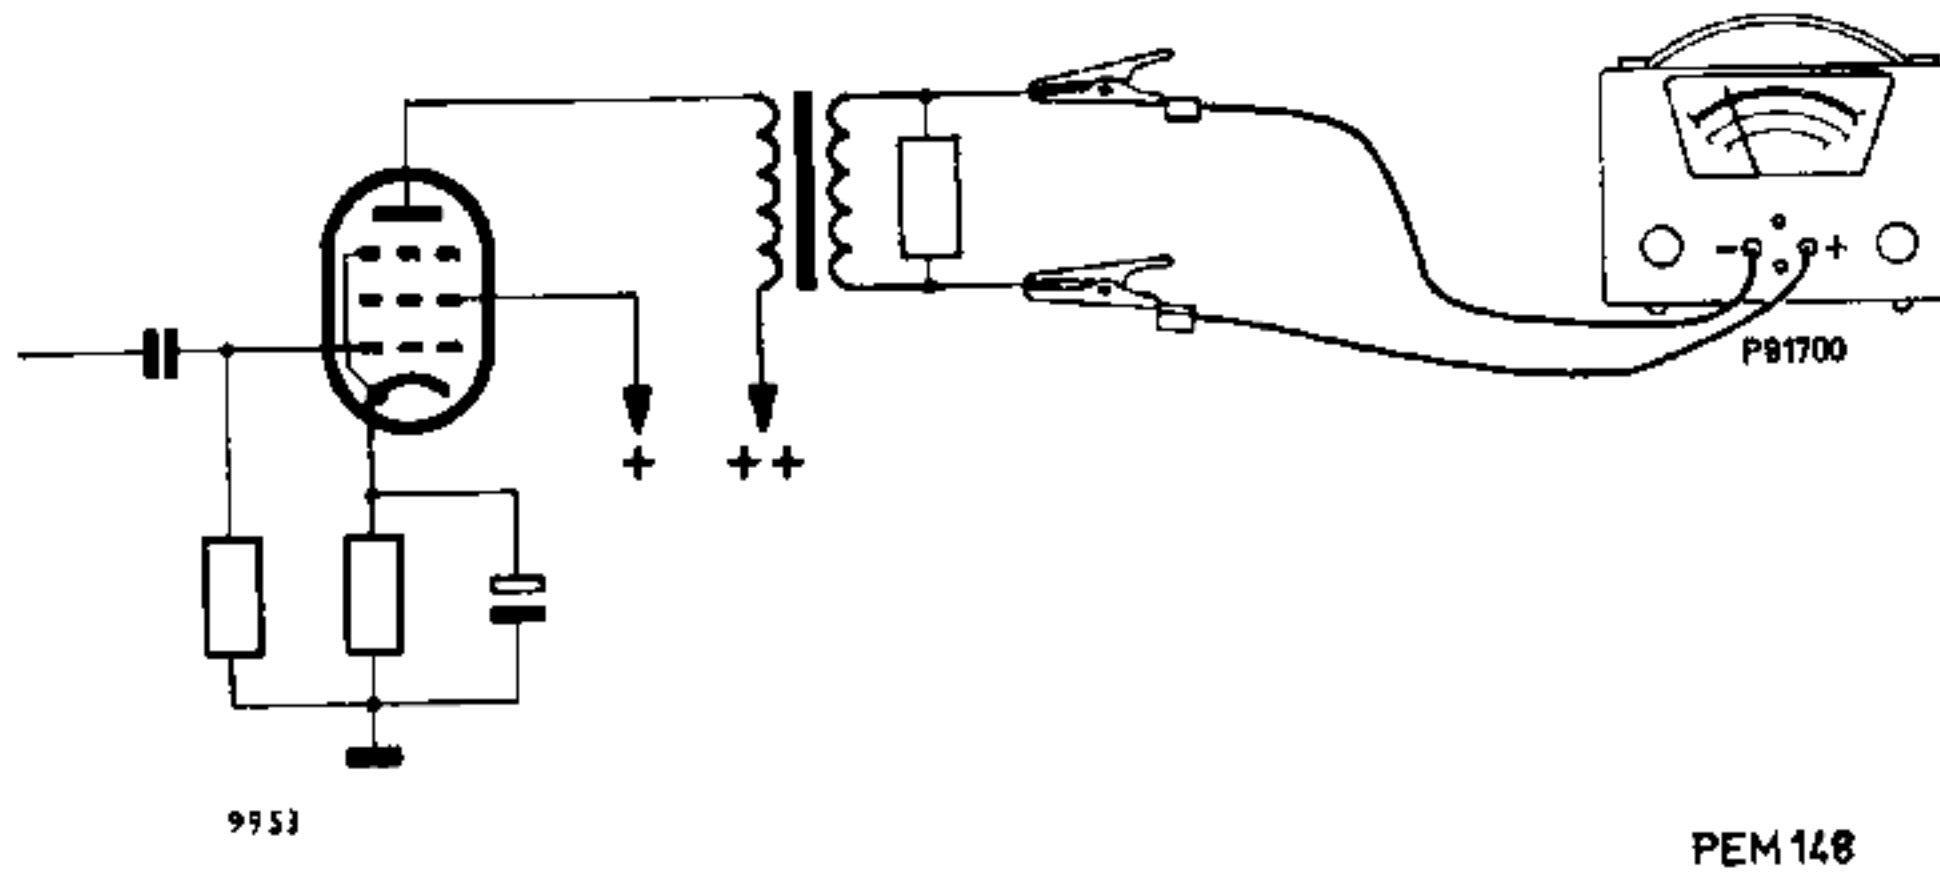

Fig. 11. Connecting the a.c. voltage meter to a receiver with a low output impedance
1. The a.c. voltage meter is connected in accordance with Fig. 11 or 12, depending upon the output circuit of the receiver.
Connection in accordance with Fig. 11